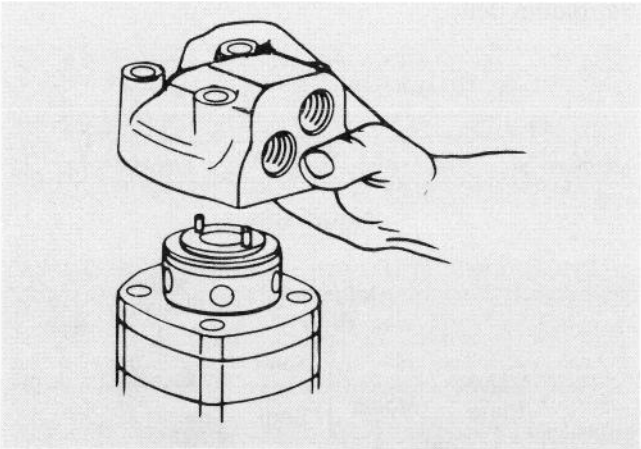

Figure 91
4. Lift valve housing straight up. If done carefully the pins, springs, balance ring assembly, and valve will remain on the valve plate (Fig. 91).